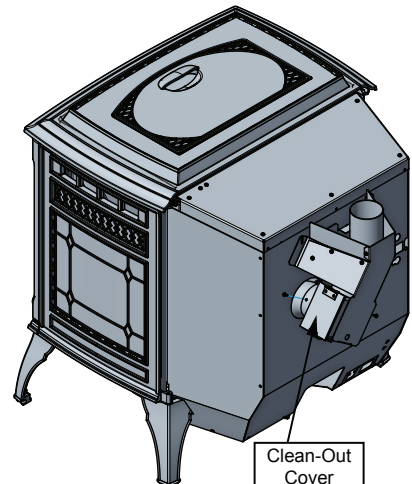

Figure 6
- After performing regular cleaning of venting, open the clean-out cover and vacuum out debris; close when complete (**Figure 6**).